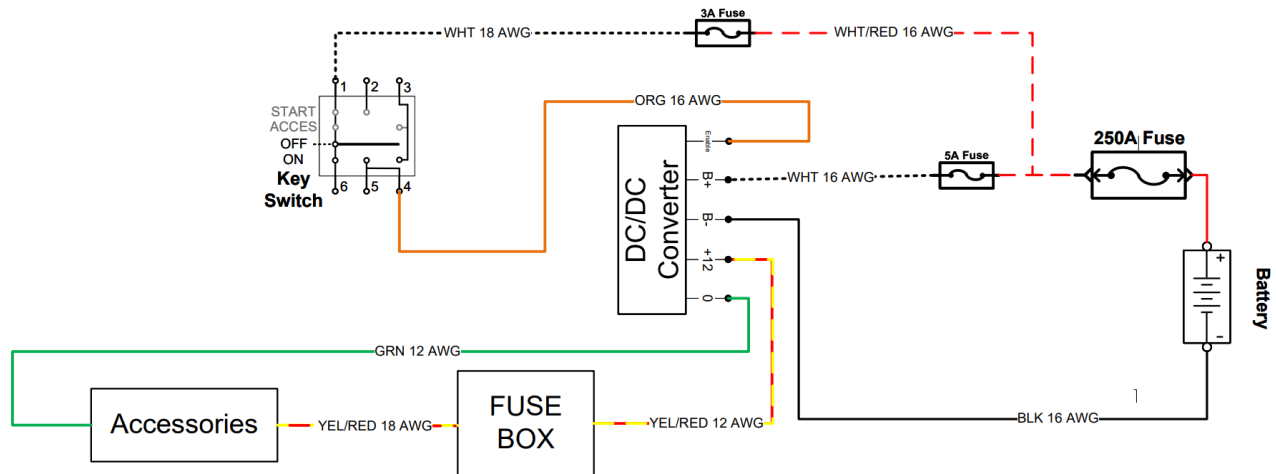

Figure 63. DC/DC Converter Input and Output Terminals Inspection.
- 2.1. Check for the presence of voltage between the positive terminal (**B+**) (White Wire) and the negative terminal (**B-**) (Black Wire) of the DC/DC converter (As shown in Figure 63).
- 2.2. Check for the presence of voltage between the orange wire and the negative terminal (**B-**) (Black Wire) of the DC/DC converter (As shown in Figure 63).
- 3.1. Check for the presence of voltage between the yellow/red wire and the green wire of the DC/DC converter (As shown in Figure 63).